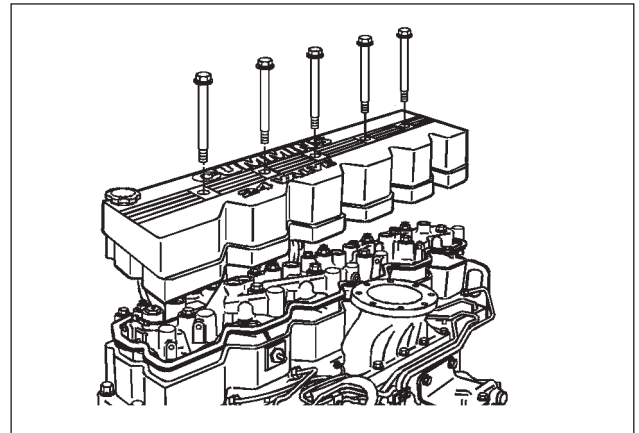

FIG. 10
1. Install the new gasket and cover on the spacer. Tighten the cover capscrews starting from the center and working out to 12 N•m [9 ft-lb]. (See Fig. 10)